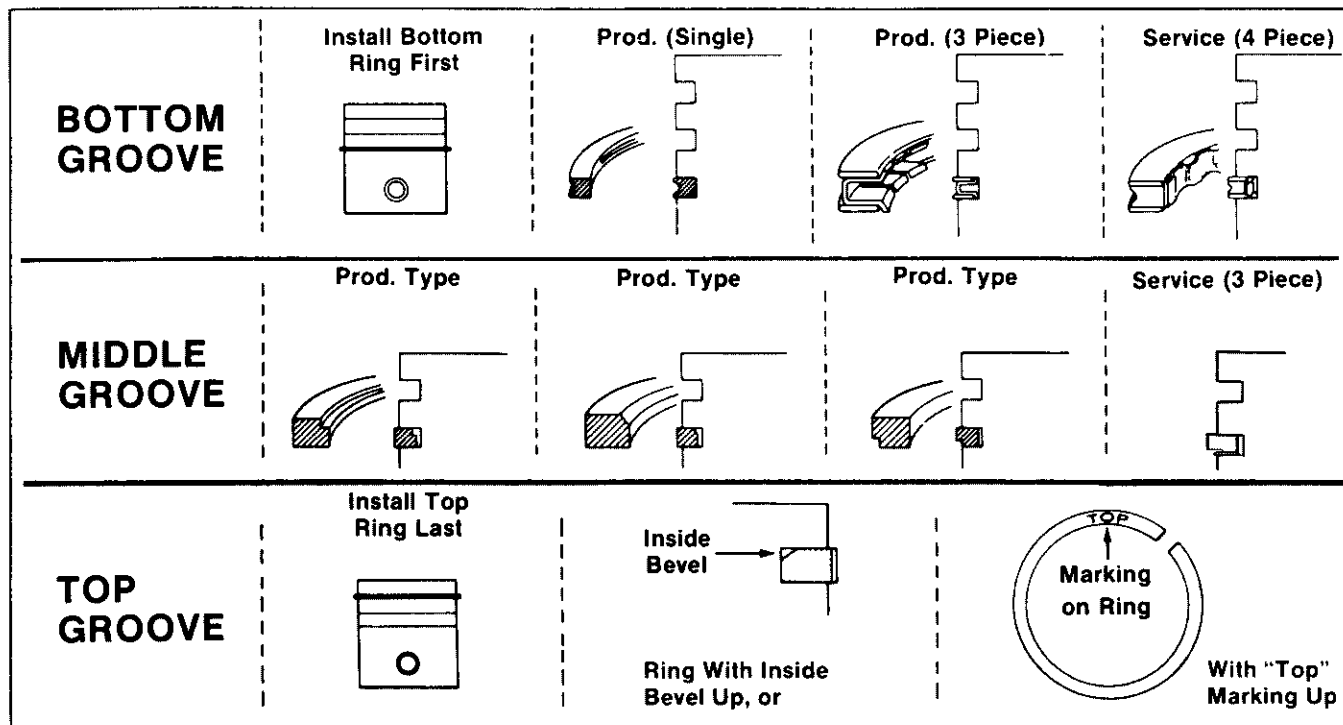

FIGURE 10-7 -- PRODUCTION AND SERVICE TYPE RINGS - INSTALLATION
4. Rings must be installed according to markings on rings. Generally compression rings must be installed with groove or bevel up when this is on inside diameter of ring. The chrome plated ring, when used, must be installed in the top groove. When the bevel is on outside of ring, install in down position or toward the piston skirt. Refer to Figure 10-7 for typical ring types and installation in grooves. Ring installation instructions are also included with new ring sets either printed on the carton or on a printed sheet included in container. Follow instructions carefully. Use ring expander to install rings and check side clearance of each ring after installation. Be careful not to overexpand rings when installing on piston.